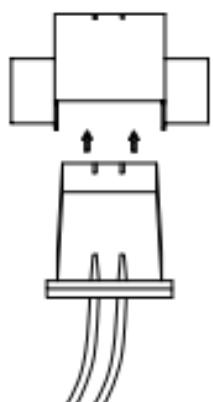

Figure I-2
(3) Route cable(see Figures I-1 and Figure I-2, Figure I-3).
- (a) Attach cable assembly to the inside escutcheon printed circuit board (PCB) by lining up notches on top of cable connector to slots on PCB connector (Figure 3K). Press connector in firmly using thumbs until completely seated (proper position indicated by arrows on PCB as in (see **Figures I-1 and Figure I-2, Figure I-3**).
- (b) If need automatic relocking function, need to install the door position sensor (supplied in the box) , attach the sensor cable to the inside escutcheon printed circuit board (PCB), the cable route through the slot on the rubber gasket. (see **Figures I-1 and Figure I-2**).